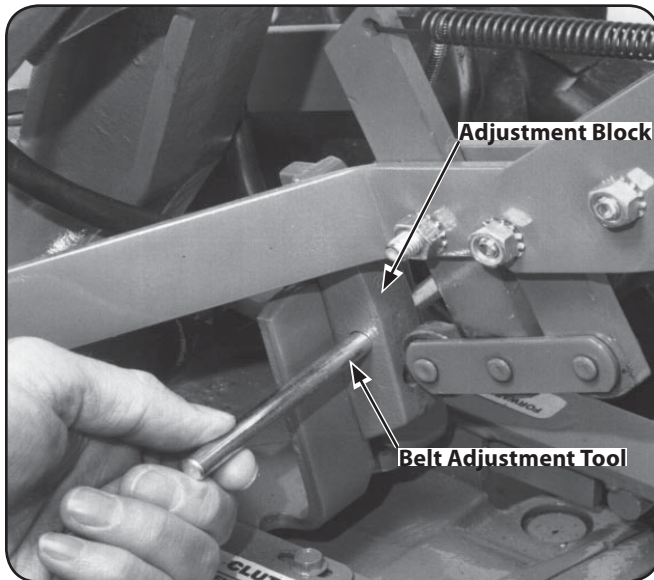

Figure 6-15
3. Insert the belt adjustment tool through the hole in the side of the adjustment block, spacing the ends of the tool equally on both sides. See Fig. 6-15. Rotate the tool so the slotted end faces down.